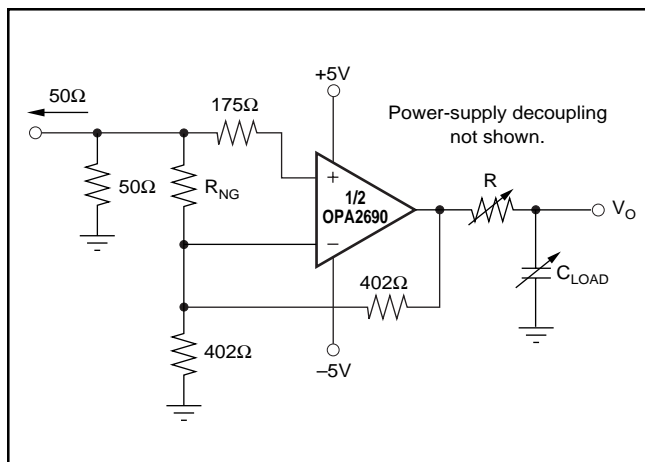
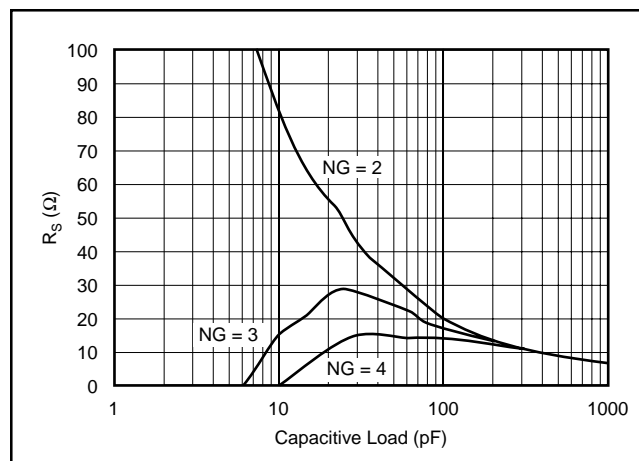

FIGURE 13. Capacitive Load Driving with Noise Gain Tuning.
FIGURE 14. Required  $R_S$  vs Noise Gain.
The criterion for setting this  $R_S$  resistor is a maximum bandwidth, flat frequency response at the load. For the OPA2690 operating in a gain of +2, the frequency response at the output pin is already slightly peaked without the capacitive load requiring relatively high values of  $R_S$  to flatten the response at the load. Increasing the noise gain will reduce the peaking as described previously. The circuit of Figure 13 demonstrates this technique, allowing lower values of  $R_S$  to be used for a given capacitive load.
This gain of +2 circuit includes a noise gain tuning resistor across the two inputs to increase the noise gain, increasing the unloaded phase margin for the op amp. Although this technique will reduce the required  $R_S$  resistor for a given capacitive load, it does increase the noise at the output. It also will decrease the loop gain, nominally decreasing the distortion performance. If, however, the dominant distortion mechanism arises from a high  $R_S$  value, significant dynamic range improvement can be achieved using this technique. Figure 14 shows the required  $R_S$  versus  $C_{LOAD}$  parametric on noise gain using this technique. This is the circuit of Figure 13 with  $R_{NG}$  adjusted to increase the noise gain (increasing the phase
d) **Connections to other wideband devices** on the board may be made with short direct traces or through onboard transmission lines. For short connections, consider the trace and the input to the next device as a lumped capacitive load. Relatively wide traces (50mils to 100mils) should be used, preferably with ground and power planes opened up around them. Estimate the total capacitive load and set  $R_S$  from the plot of "Recommended  $R_S$  vs Capacitive Load". Low parasitic capacitive loads (< 3pF) may not need an  $R_S$  since the OPA2690 is nominally compensated to operate with a 2pF parasitic load. Higher parasitic capacitive loads without an  $R_S$  are allowed as the signal gain increases (increasing the unloaded phase margin, see Figure 14). If a long trace is required, and the 6dB signal loss intrinsic to a doubly-terminated transmission line is acceptable, implement a matched impedance transmission line using microstrip or stripline techniques (consult an ECL design handbook for microstrip and stripline layout techniques). A 50Ω environment is normally not necessary on board, and in fact, a higher impedance environment will improve distortion as shown in the distortion versus load plots. With a characteristic board trace impedance defined (based on board material and trace dimensions), a matching series resistor into the trace from the output of the OPA2690 is used as well as a terminating shunt resistor at the input of the destination device. Remember also that the terminating impedance will be the parallel combination of the shunt resistor and the input impedance of the destination device; this total effective impedance should be set to match the trace impedance. The high output voltage and current capability of the OPA2690 allows multiple destination devices to be handled as separate transmission lines, each with their own series and shunt terminations. If the 6dB attenuation of a doubly-terminated transmission line is unacceptable, a long trace can be series-terminated at the source end only. Treat the trace as a capacitive load in this case and set the series resistor value as shown in the plot of "Recommended  $R_S$  vs Capacitive Load". This will not preserve signal integrity as well as a doubly-terminated line. If the input impedance of the destination device is low, there will be some signal attenuation due to the voltage divider formed by the series output into the terminating impedance.